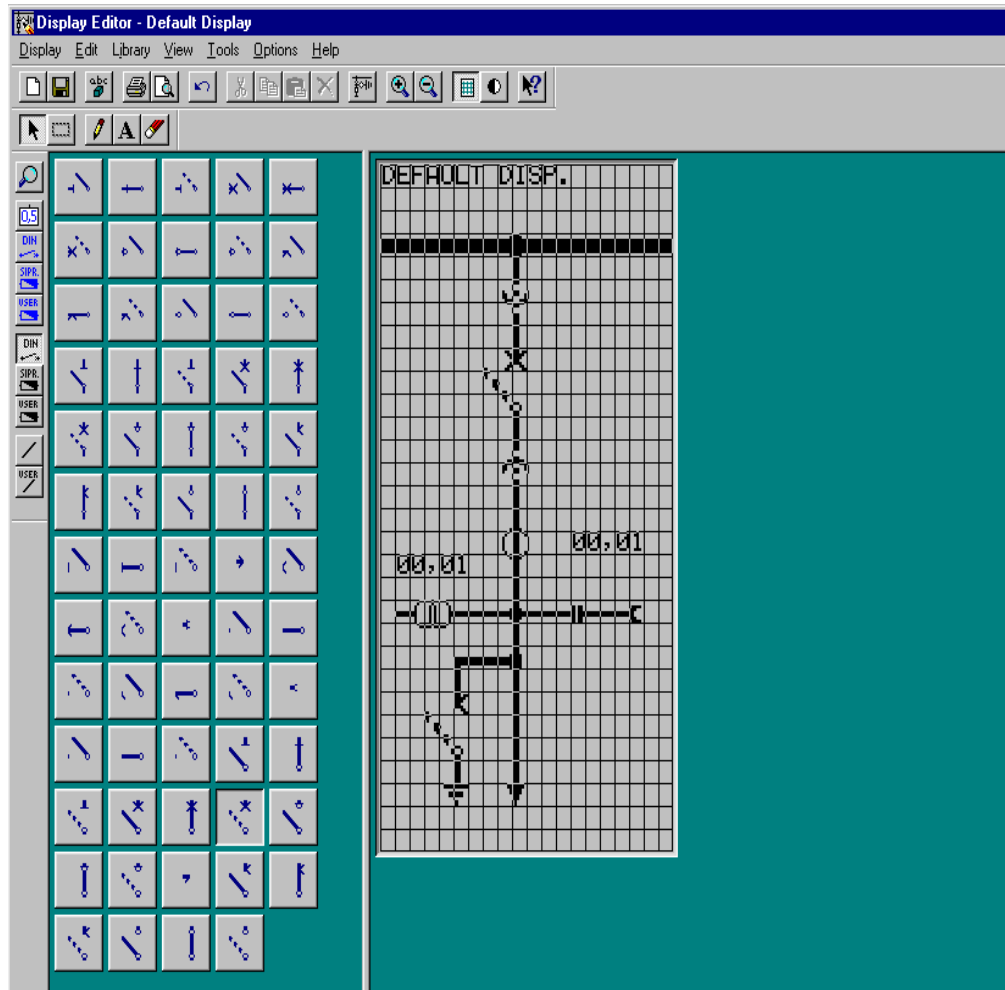

Figure 5-47 Standard default display after opening the Display Editor
As delivered, the relay shows a basic default image (see Figure 5-47) which may be modified or replaced to show the actual equipment conditions. It is also possible, however, to show information in addition to the single-line diagram. The display may also be used, for example, to show a number of measured values.
- In DIGSI® 4, select the default display under the **Setting** option. The Display Editor is started and the default display is opened (see Figure 5-47). *Right-click* in the title bar and select **Open** in the context menu which appears. The desired text may be entered.